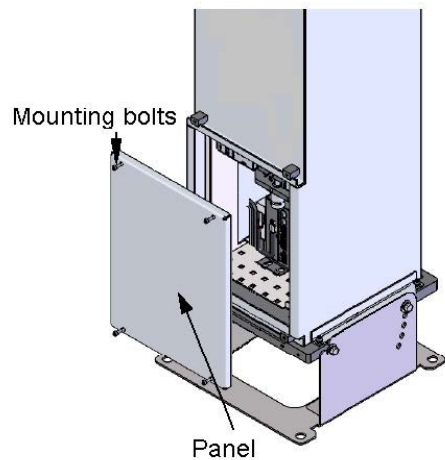

Figure 4-8. Removing the enclosure lid
1. Remove the four screws (Figure 4-8 [p. 25])